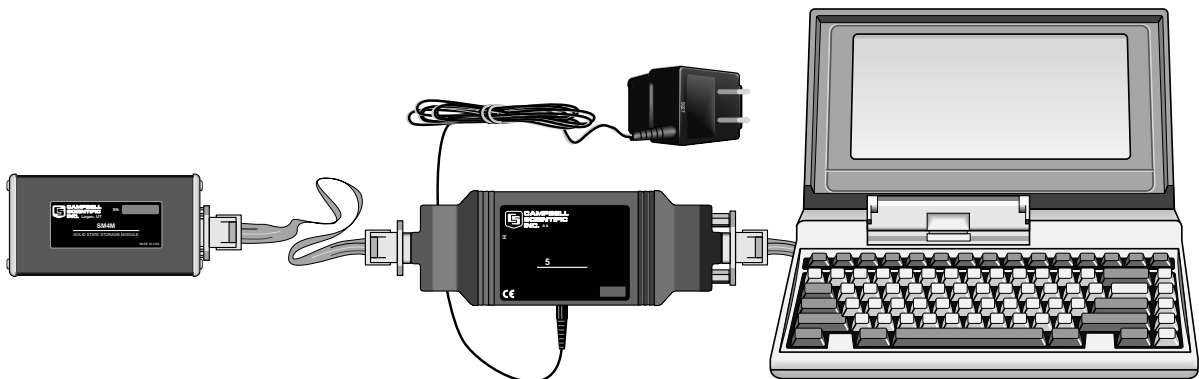
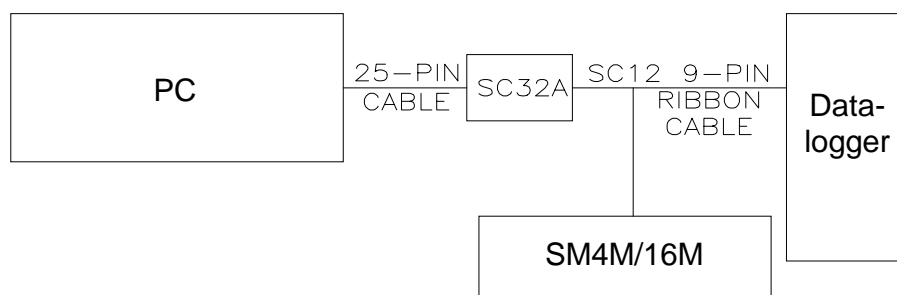
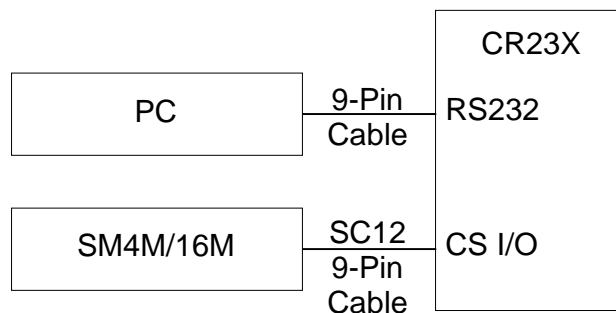

FIGURE 5-1. Storage Module Connected to a Portable PC via an SC532(A) Interface
FIGURE 5-2. Communication Via the CR500/510, CR10/10X or CR23X
FIGURE 5-3. Communication Via the CR23X
A standard 25-pin ribbon cable (e.g., Campbell Scientific SC25) links the SC532(A) to the computer's 25-pin serial port. If the computer has a 9-pin serial port, a 9-pin to 25-pin adaptor cable is required. For the SC532A you will need a standard 9-pin (or 25-pin, depending on your PC) to 9-pin data cable for linking PC to interface. The SC12 9-pin ribbon cable links the Storage Module to the SC532(A) (see Figure 5-1).
The Storage Module is linked to the CR500/510, CR10/10X or CR23X by the SC12 cable. The computer connection is via an SC32A (Figure 5-2), SC929 or SC532(A)/RAD modem interface. For this configuration with the CR23X, connect all devices to the 9 pin CS I/O port. Select the “Via Datalogger” option in SMS and select the appropriate datalogger and baud rate.
Communication between a PC and Storage Module can also take place via the CR23X when the computer RS232 is connected to the CR23X RS232 and the Storage Module is connected to the CS I/O port (Figure 5-3). This configuration allows baud rates of 19200 and 38400.
SMS (part of the PC208W software package) is a Windows-based program which provides a simple and efficient way of communicating with the SM4M/SM16M, as well as Campbell Scientific's Card Storage Module (CSM1), Card Reader (MCR1) and PC (PCMCIA) Cards. SMS normally requires the SC532(A) interface as shown in Figure 5-1 for direct connection. For communication via the CR500/510, CR10/10X or CR23X the setup shown in Figure 5-2 is required. The CR23X can also be used without an SC32A (Figure 5-3). SMS also has a terminal emulator for manual execution of telecommunication commands. Refer to the PC208W manual for more details.
Connect the Storage Module to the PC via SC532(A) as in Figure 5-1. Run SMS and select the Data tab to collect data. Alternately use a terminal emulator (the program or terminal emulator must raise DTR and RTS). Send carriage returns until CR, LF, % is returned. Once the % is returned the Storage Module is ready to accept telecommunications commands (see Appendix B).
Make the connections (see Figure 5-2 or 5-3) and establish communications with the datalogger. Send the command 'xM,CR' to the datalogger (where x is the Storage Module address 1...8). If the connections are correctly made and the Storage Module is properly addressed, it will send back 'CR, LF, %.' If the attempt to establish communications fails, the datalogger will return '\*'.
Once the '%' is received, the Storage Module telecommunications commands (see Appendix B) may be used. SMS can be used when the connection to the datalogger is through the SC32A Optically Isolated RS232 Interface as shown in Figure 5-3.